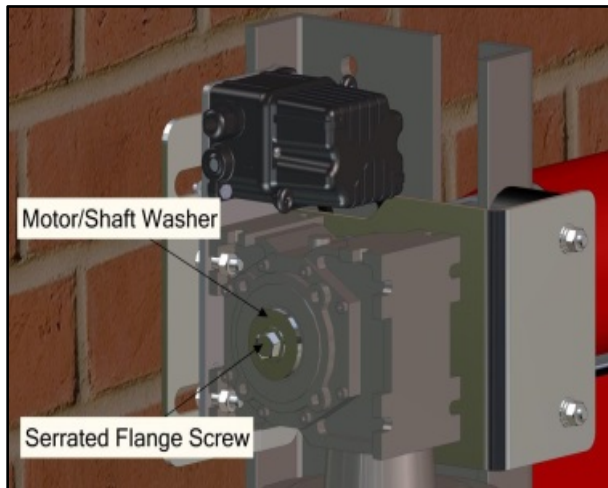

Figure 52
7. Remove serrated flange screw and flat washer from shaft end. (See Figure 52)